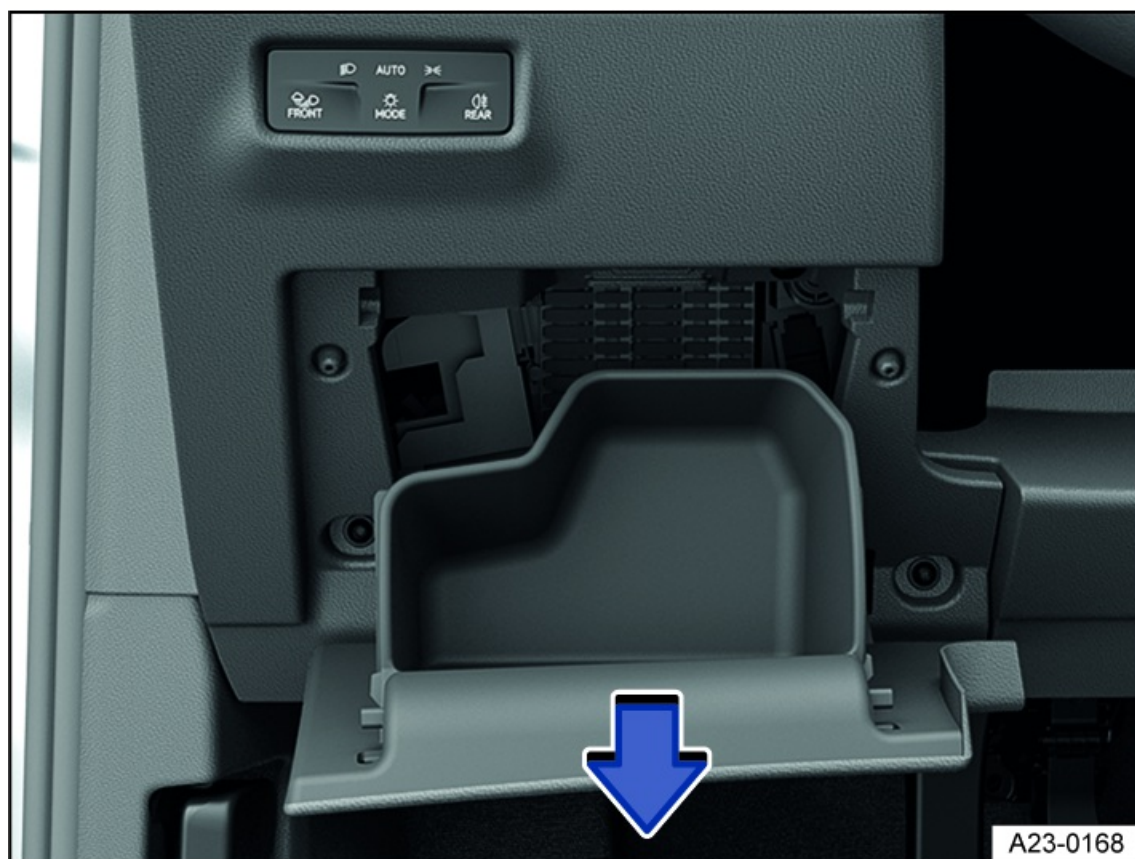

Fig. 145 To the left of the steering wheel: Fuse box cover in the instrument panel (left-hand drive vehicles).
2. Continue opening the storage compartment in the direction of the arrow and pull it out *fig. 145*.
2. Close the storage compartment in the opposite direction to the arrow *fig. 145*.